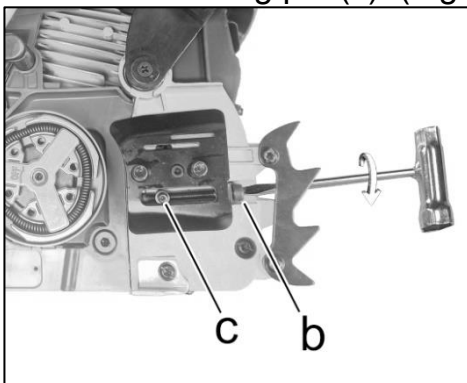

Fig.7
- 1) Turn the chain tension adjustment screw (b) counterclockwise so that the tensioning pin (c) moves back to the left position. (Fig.7)